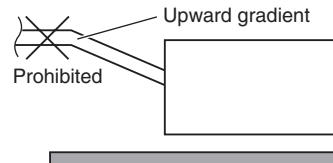

Fig. 2-117
- Do not install the pipe with an upward gradient from the connection port. This will cause the drain water to flow backward and leak when the unit is not operating. (Fig. 2-117)